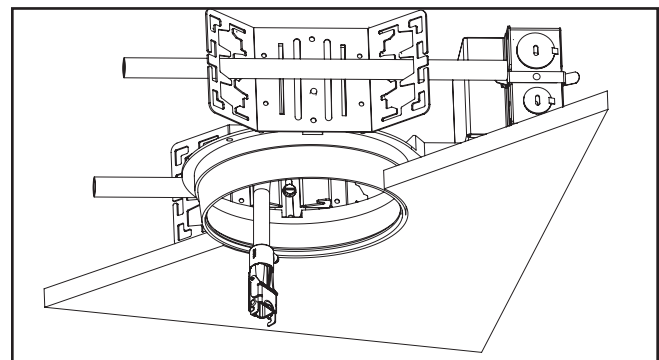

Figure 4.
1. Place end of flexible conduit through frame opening in ceiling exposing upper portion of quick disconnect (Figure 4.).